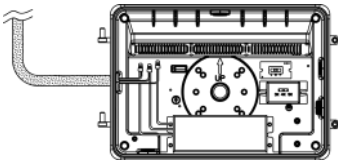

Fig. 2.5
5. Connect the luminaire's wires (L,N,G) to the power supply (Fig 2.5)